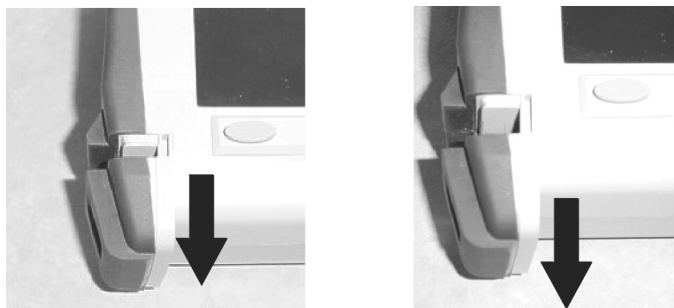

Figure 8. Removing the Battery Access Door
3. Remove the battery access door, as illustrated in Figure 8.